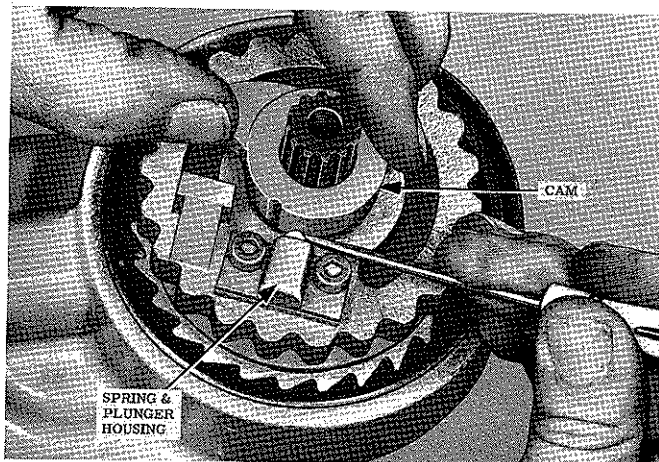

Figure 6-16. Installing Free-wheel Cam
d. With a small screw driver (Figure 6-16) depress plunger and push cam down, tight against shaft shoulder.